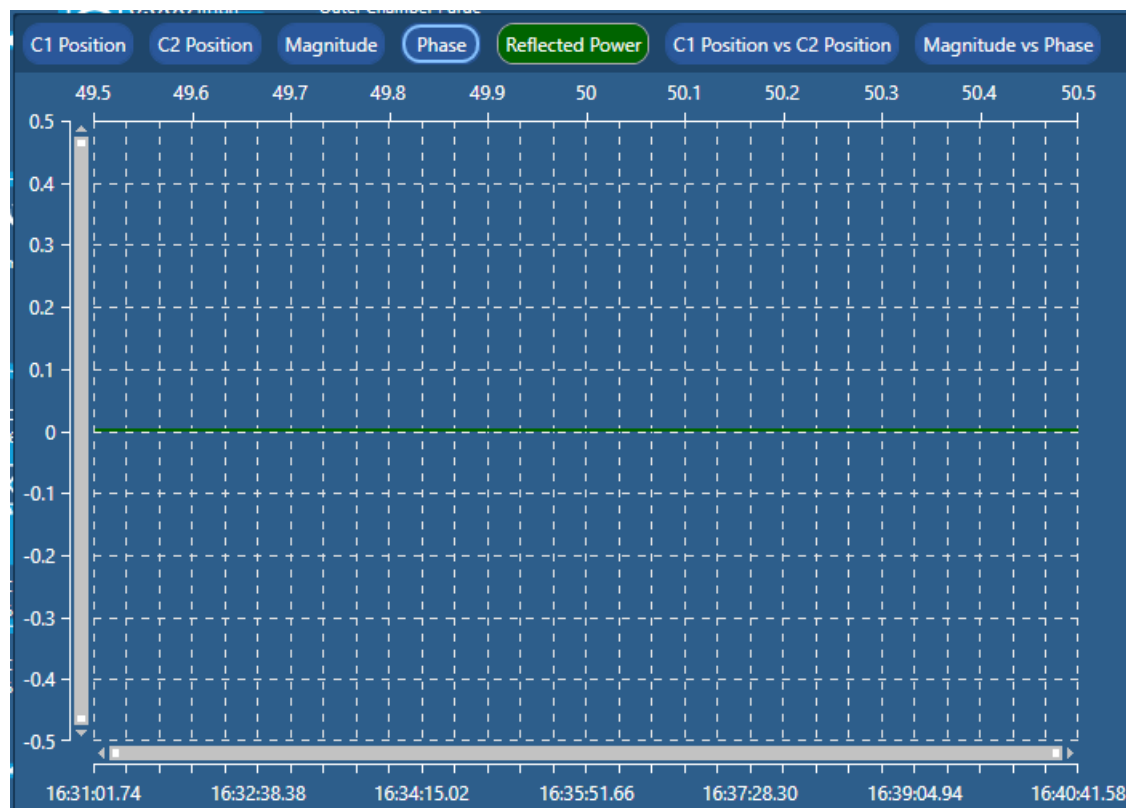

Figure 5-6 AMU graph panel
- 8 Click on the **Reflected Power** button, see Figure 5-6.